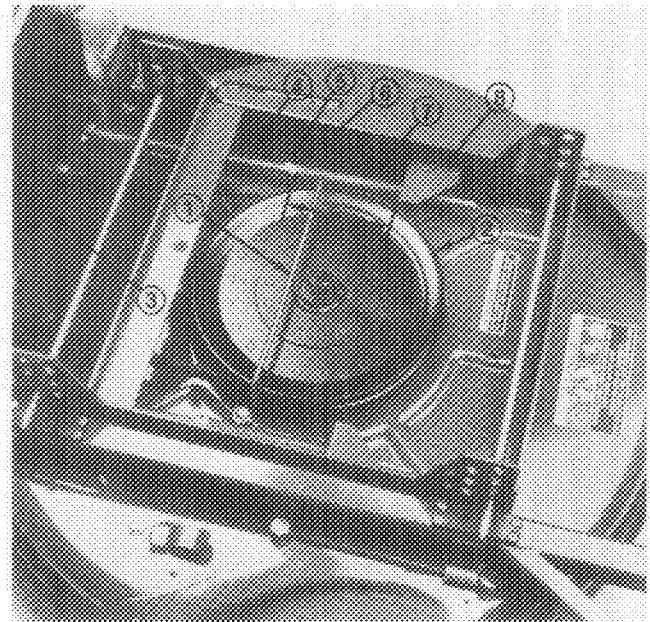

Figure 4
2. Remove (2) locknuts securing belt guide (over pulley) to mower housing (Fig. 4). Remove belt guide.
3. Route belt around deck drive pulley and engine clutch pulley (Fig. 4). Make sure belt is positioned inside C-shaped guides at rear of mower housing.
4. Thread (2) jam nuts onto each adjusting shaft (approximately 7 inches) (Fig. 4).
5. Slide a washer, spring and bushing onto each adjusting shaft. Bushing to be positioned so flange end is against spring (Fig. 4).
6. Insert spring end of each adjusting shaft into hole in deck mounting bracket and other end of shaft into hole in carrier frame mounting tab. Small end of bushing to fit into hole in deck bracket (Fig. 4).
7. To tension belt, tighten front jam nut on each adjusting shaft until springs are compressed to a length of 5", measured between washer and bushing (Fig. 4). Secure rear jam nuts.